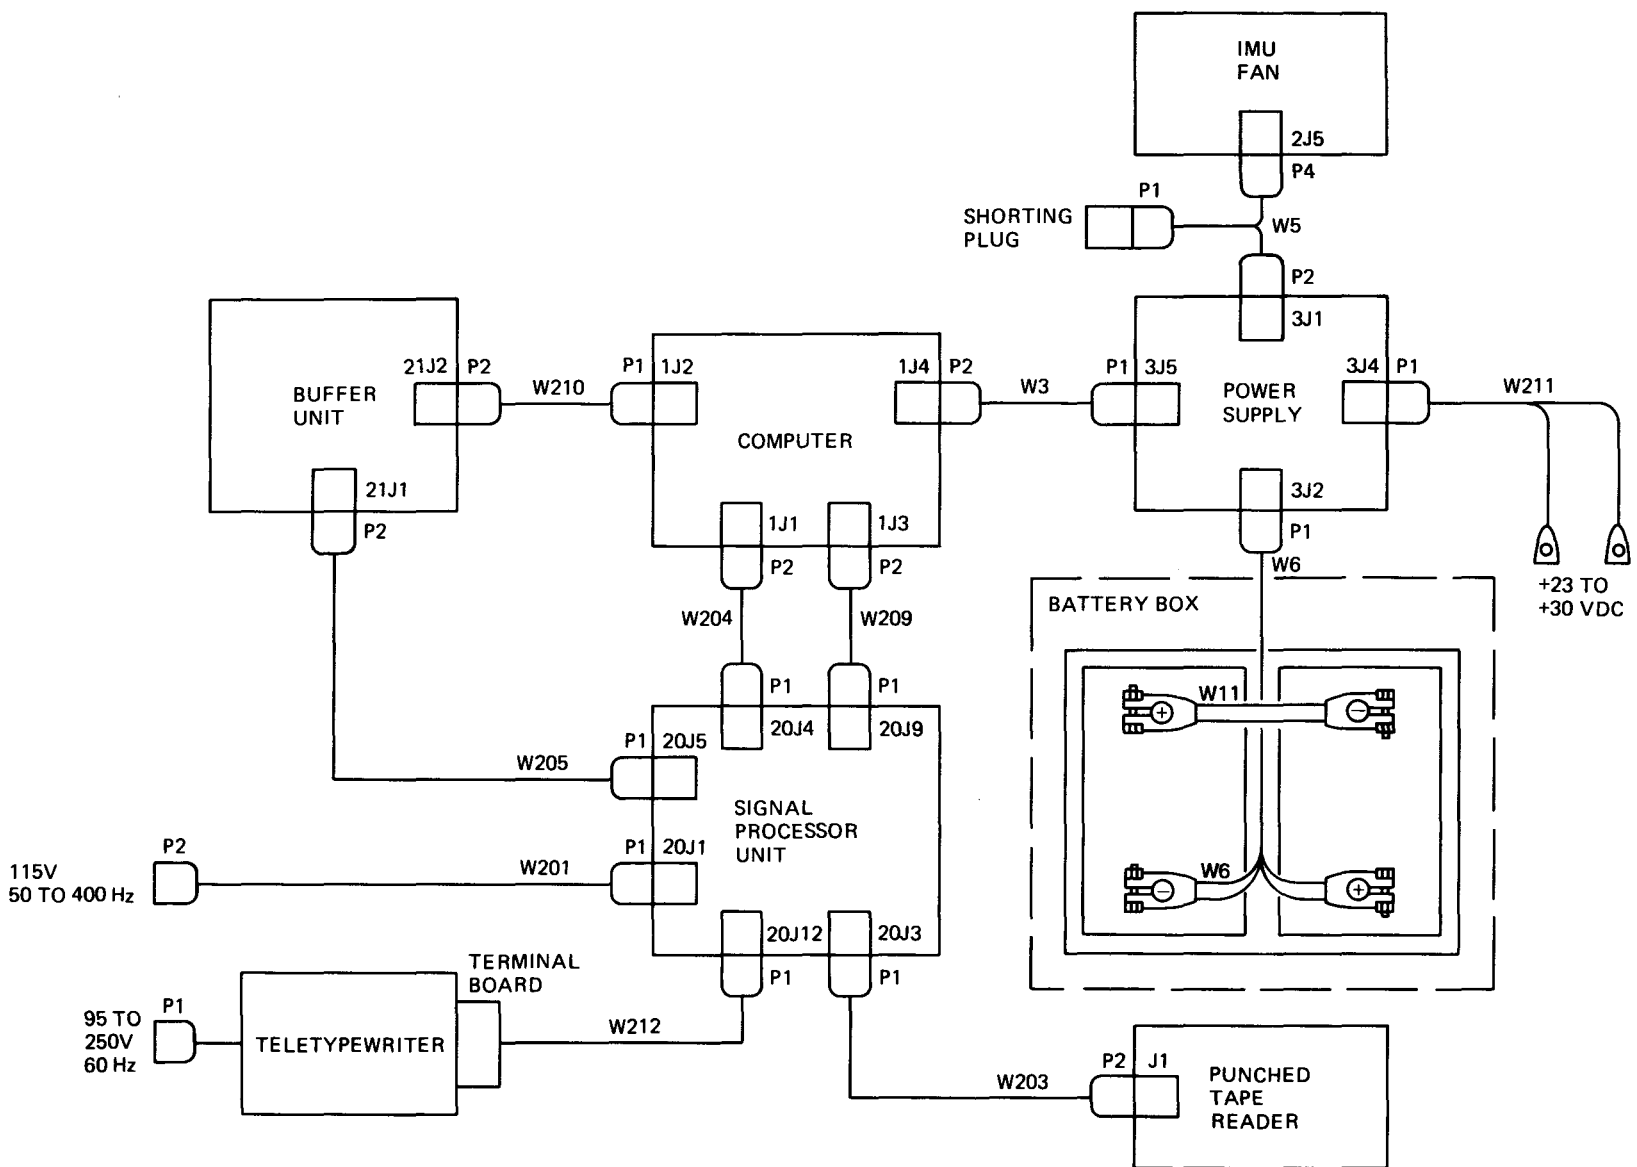

Figure 4-3. Computer Testing and Troubleshooting Interconnection Diagram
4-7. The interconnections are shown in figure 4-3. Table 4-8 is a sample printout of the computer test.
- 1e. Connect equipment as shown in figure 4-3 and the following checklist:
For abnormal indication, verify equipment is connected as shown in figure 4-3. Check connectors for bent or broken pins. Troubleshoot PADS test set in accordance with TM 5-6675-238-14 and/or TM 08839A-14/1.